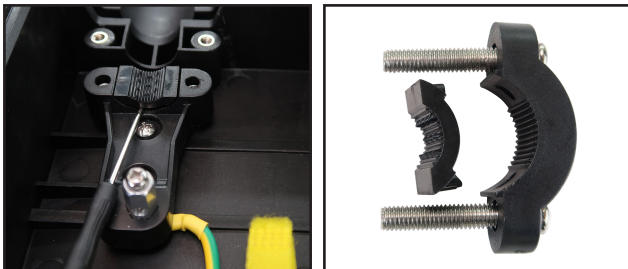

Figure 1-8: Remove upper and lower hinge for large diameter cable
- 7 Remove the upper and lower hinges if using a cable with a larger diameter (Figure 1-8).